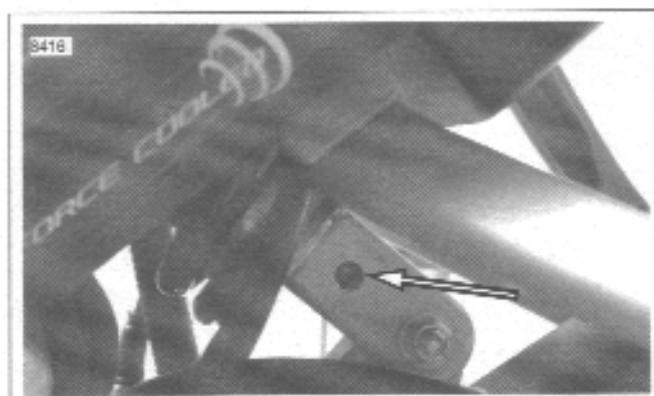

Figure 1-34. Rear Shock Rebound Adjustment
1. See Figure 1-34. Using a screwdriver, turn the slotted dial clockwise until it stops. This is the maximum rebound damping setting.